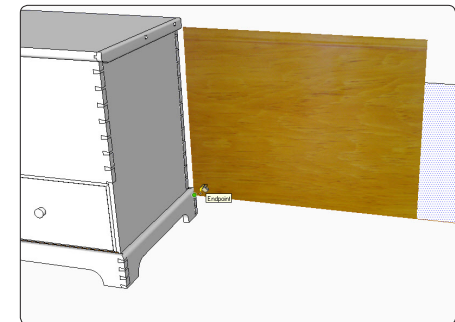

Figure 13. Anchor the imported texture on the face and move the mouse to resize it.
Step 4 The image will appear in the modeling window, with a circle that has a line through it at the lower-left-hand corner. Moving the mouse moves the image. As you hover over the rectangle where the texture will be placed, the cursor changes to the Paint Bucket Tool. To anchor the image, click on the lower-left-hand corner of the rectangle face. Begin moving the mouse upward and to the right to size the texture (Figure 13).